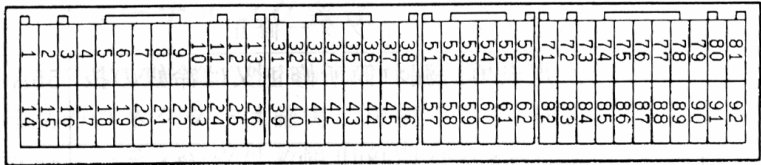

Fig. 21-1
2. Inspection at ECU terminal (see Fig. 21-1, Table 21-7)